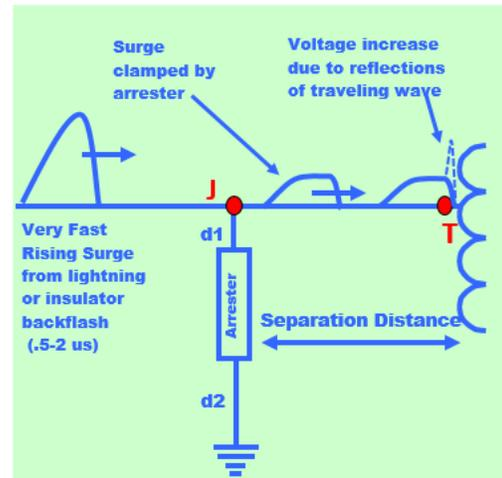

Figure 2 Separation Distance Calculator Circuit
- $L = d1 + d2 \times .4\mu h/ft$ (*d1* and *d2* in feet) (see Figure 2)
An interactive Excel based calculator based on the above equation is available. Figure 2 shows the basic circuit and Figure 3 shows the inputs and outputs of the calculator. The inputs are in Green boxes and the output is at the bottom showing the maximum separation distance in feet or meters.